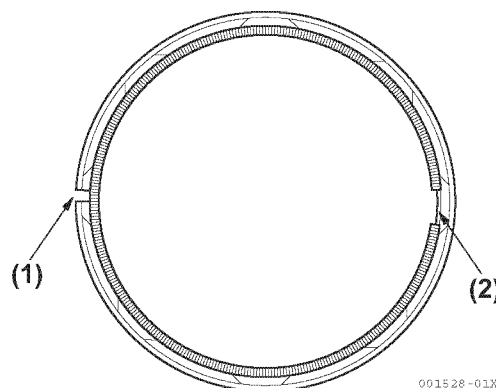

Figure 5-93
- The oil ring includes a coil expander. The coil expander joint should be opposite (180°) the oil ring gap (**Figure 5-93**).